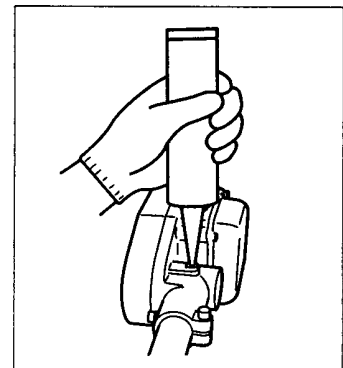

Fig. 5.4
**Angle transmission (Fig.5-4)**